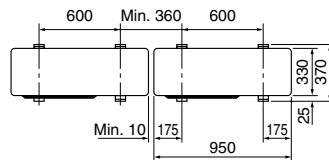

Fig. 4-1
- Be sure to install the unit in a sturdy, level surface to prevent rattling noises during operation. (Fig. 4-1)